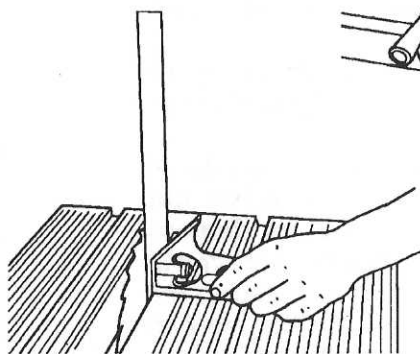

Fig. B-64
26. Place the combination square against both the saw blade and worktable, as seen in Fig. B-64. Make sure the square's blade does **not** touch a saw tooth and **does** rest in a gullet between teeth.